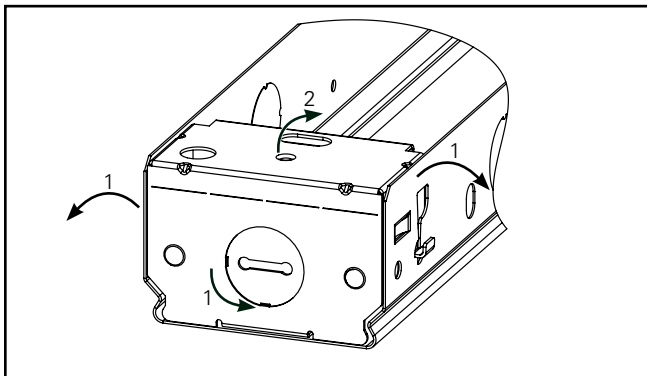

Figure 2.
1. Rotate end, pulling slightly the channel apart and pushing the bottom of the end (Figure 2.).